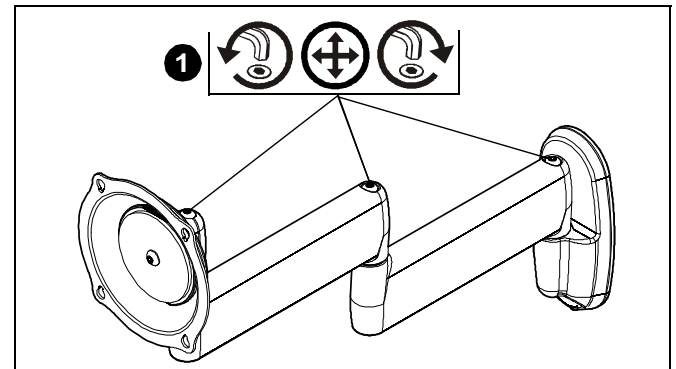

Figure 8
1. Slightly loosen or tighten the adjustment screw(s) as necessary (See Figure 8).